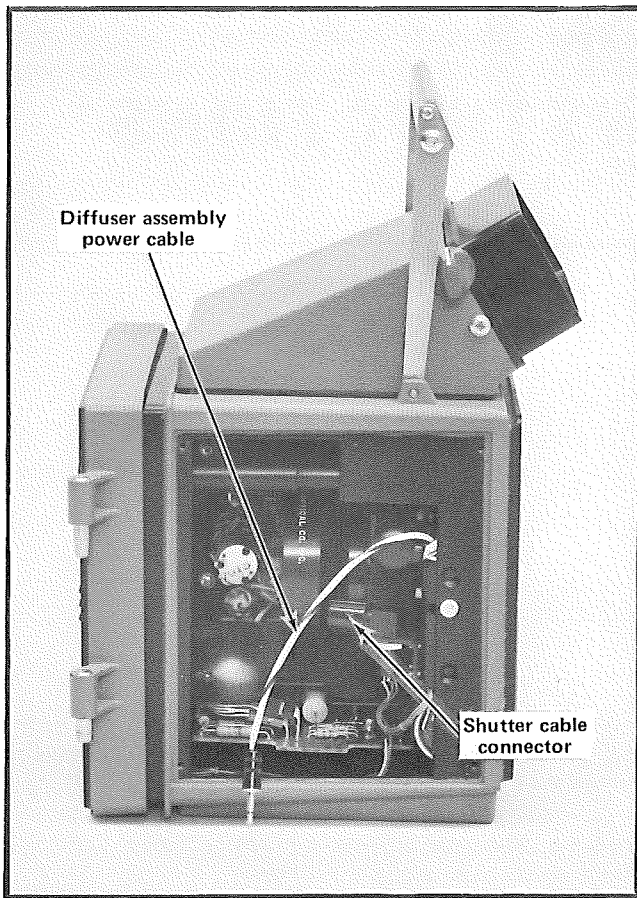

Fig. 2-2. Correct routing for the diffuser assembly power cable when the Writing Speed Enhancer is installed on a camera not having a battery pack.
4. Route the diffuser assembly power cable through the camera in the manner shown in Fig. 2-2.